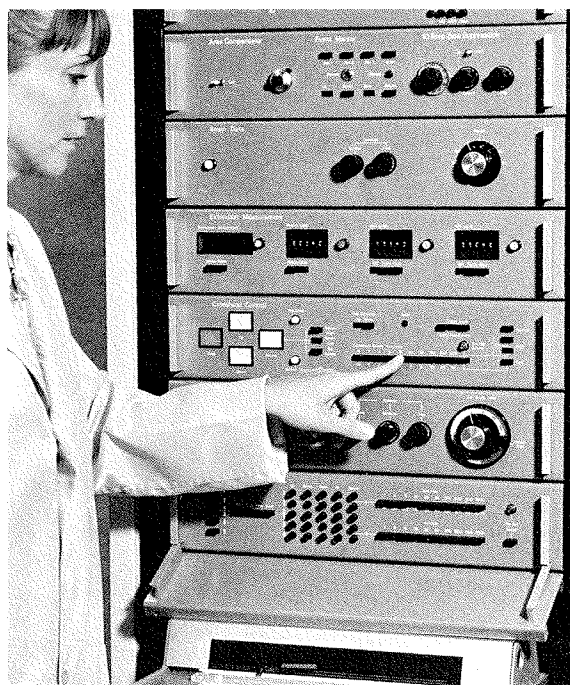

Figure 6-7. Selecting a Crosshead Speed
b. Depress the required crosshead speed, clutch and chart speed pushbuttons on their respective panels (figure 6-7).